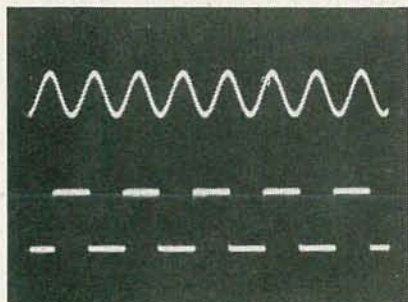

FIG. 5—THE FREQUENCY-STANDARD OUTPUT (bottom trace) should be jitter free. The top trace is the input from the antenna.
- Using an oscilloscope, observe the square-wave output at IC1 pin 3; it should be *clean* with no jitter, as shown in Fig. 5. Overcoupling of the antenna to the TV will cause too much signal on IC1 pin 2, which will result in an unstable output.